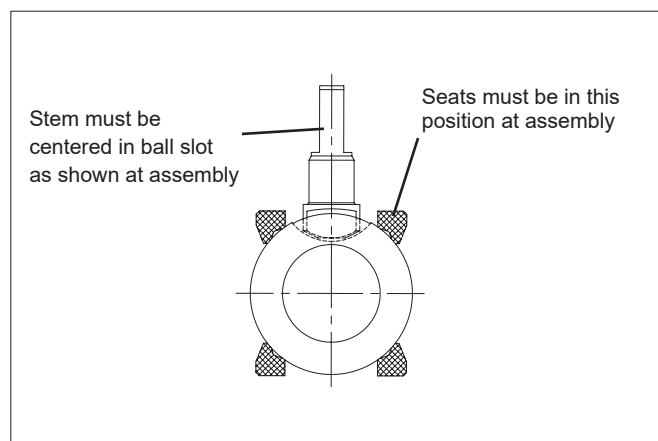
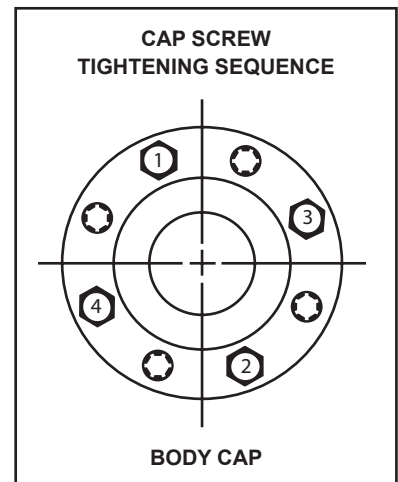

Figure 2. Proper Seat and Ball Orientation
Figure 3
3. Carefully clean and polish the ball (3) sealing surface: It should be free of all scratches and grooves.
5. The valve needs to be raised above the working surface slightly because the ball protrudes slightly from either end of the valve when in the closed position. With the body cap side facing up, slide one valve seat (5) sideways into the body (1) to below the stem bore, and tilt it into place so that the proper surface (see **Figure 2**) will be adjacent to the ball (3), being careful not to cut or scratch the seat.
6. From inside the body (1), insert the secondary stem seal (7) and the bottom stem seal (8) into the body (see **Figure 3**).
7. Insert the stem (4) through the body cap end of the body (1), being careful not to scratch the stem sealing surface; and press it gently up into the stem bore until resistance is felt from the bottom stem seal (8).
8. Hold the stem in place from the bottom and insert the top stem seals (8), for Model 'A' version, or (24) for Model 'B' version (see **Figure 3** for proper v-ring orientation), over the stem (4).
9. Place compression ring (21) and indicator stop (12) over stem (4).
11. Tighten the stem nut (15) until the stem seal(s) are fully seated. Then tighten an additional 1/8 to 1/4 turn.
12. Insert the ball (3) rotating it onto the stem (4) in the closed position. If necessary, turn the stem blade to align with the ball slot. Make certain that the stem blade is in the middle of the ball slot; i.e. equal distance from the ends of the slot. Rotate the ball if necessary (see **Figure 2**).
13. Gently place the body seal (6) into the machined recess of the body (1).
14. Place the second seat (5) into the body cap (2) with the proper surface adjacent to the ball, (see **Figure 2**).
15. Place the body cap (2) in the body (1) being careful to properly orient body cap and body as originally assembled by matching orientation marks made prior to disassembly. Take care not to damage body seal (6) or seat (5) during this operation.
16. Lubricate the threads of body bolts (10) with NeverSeez® or equivalent. Install body bolts (10) and tighten sequentially as shown in the diagram in (**Figure 3**), to the recommended values as shown in the "**BODY BOLT TORQUES**" chart in (**Figure 3**).
17. Aligning the slot in the handle with drive on the stem, lower handle (17) straight down in line with the valve stem (4) until it is completely engaged. Place the second stem nut (15) on the stem (4).
- c. From **Figure 3**, the ballooned part number, part name and quantity required.